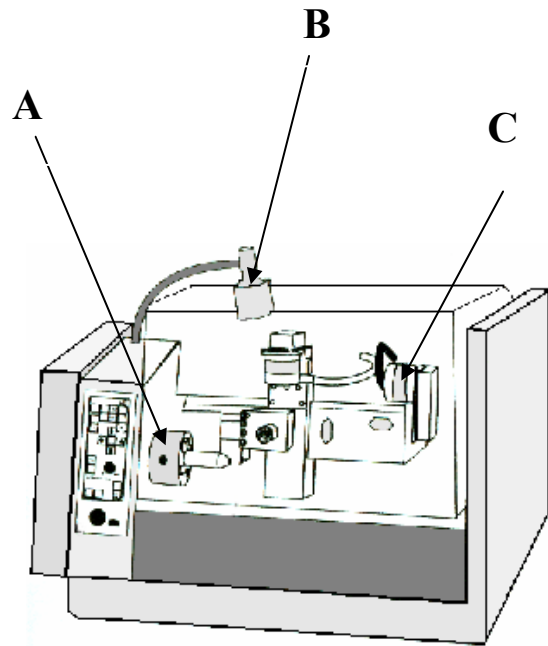

Fig.7 CNC Lathe
- (a) (i) Identify **one** safety feature incorporated into the CNC lathe shown in Fig. 7.